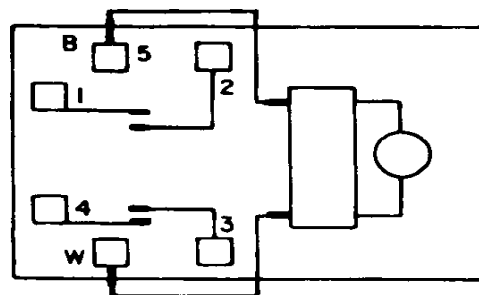

Figure 70
4. Advance the Clock Hands until they reach the Start Time Setting; at this point the Start Time Knob should "POP" out and within one (1) minute the oven burner should go OFF.
6. If the oven burner does not turn "ON" and "OFF" after conducting test in instructions one (1) through five (5) then proceed as follows:
8. Conduct a continuity test across the switch contacts of the clock timer. (See Figure 70.)